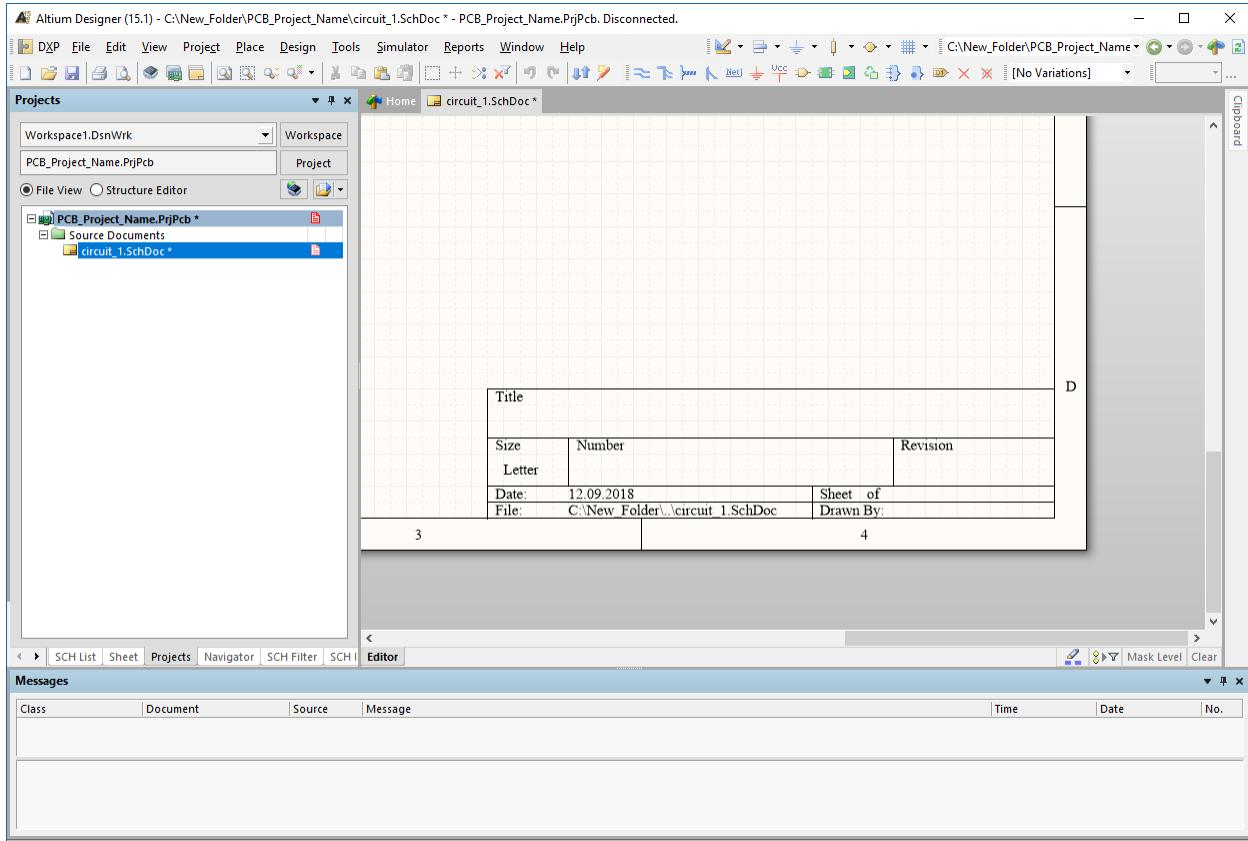

Figure 19: Altium schematic sheet zoomed in on legend.
11. Lets explain how you navigate the sheet. To move the sheet on the screen right click on int and hold which allows you to drag the sheet around the screen. To zoom into a document press CTRL and scroll on the mouse wheel back and forth. Now zoom in on the legend on the bottom right of the document as shown in figure19.